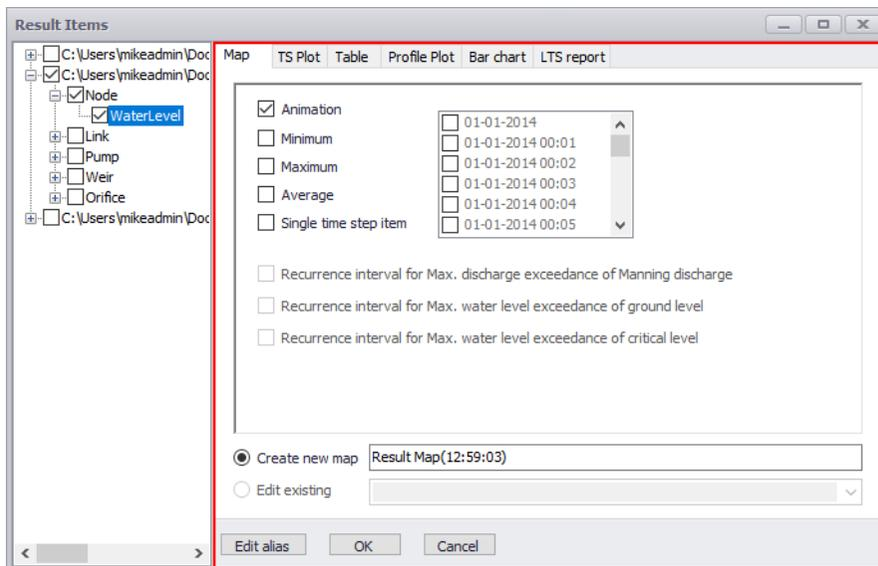

Figure 19.11 Choosing plot value type to display on the map
Plot results on a result map via the Map tab on the Result Items dialog (Figure 19.11). The dialog is accessed via the 'Result documents' option from the Result View local context menu.
- Navigate to the Map tab on the Result Items dialog (Figure 19.11).